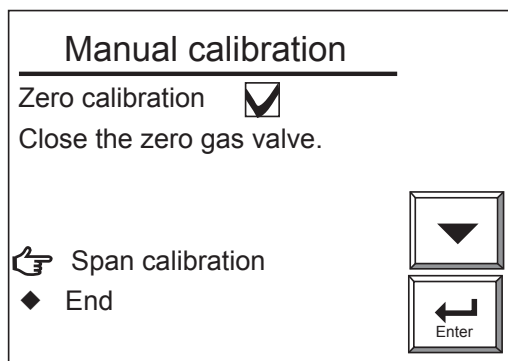

Figure 10.18 Zero gas Calibration Complete (in Manual Calibration Display)
- (1) Use the needle of the zero gas valve "CHECK GAS" to puncture a hole in the gas cylinder installed as described in Section 10.7.2. Fully clockwise turn the valve regulator by hand.
- (2) Next, adjust the flow rate to  $600 \pm 60$  ml/min (the flow check ball stops floating on the green line when the valve is slowly opened). Turn the regulator of the zero gas valves back slowly counterclockwise. At that time, the flow rate also decreases as the inner pressure of the gas cylinder decreases. Therefore, monitor the flow check and, when the ball's position changes greatly, readjust the valve.
- (3) Select "Valve opened" (to start calibration) from the Manual calibration display. Check the Trend graph display to see that the measured value is stabilized. Then press the [Enter] key. The Manual calibration display shown in Figure 10.18 appears. Then stop the zero gas flow immediately. Turn the zero gas valve regulator fully clockwise. If this valve regulator is not properly adjusted, the needle valve will not close completely and a cylinder gas may leak.